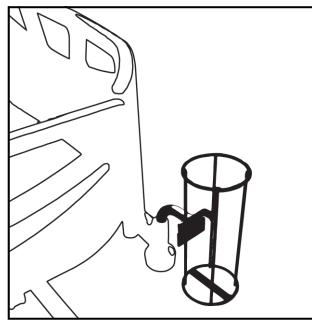
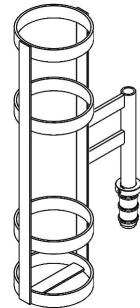

Figure 27 – Installing the oxygen bottle holder (MM006)
Figure 28 – Installing the oxygen bottle holder (MM061/MM062/MM063)
1. Insert the oxygen bottle holder into one of the two accessory sleeves near the head end (Figure 27, Figure 28).